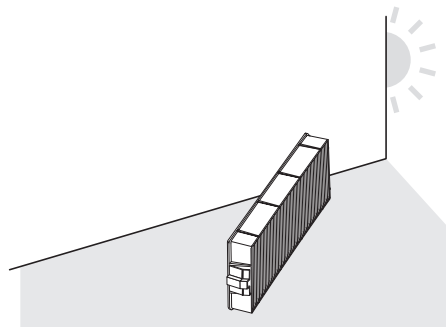

Fig. 2
**2) Dry the air filter unit. (Fig. 2)**